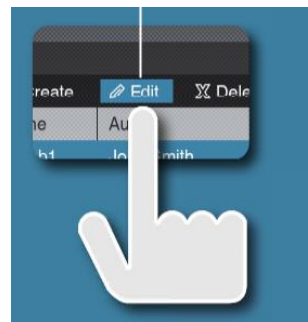

Figure 25. Selecting a lab to edit in PC Courseware Editor V2.0
3. Select the lab you just created and select the **Edit** button (Figure 25).